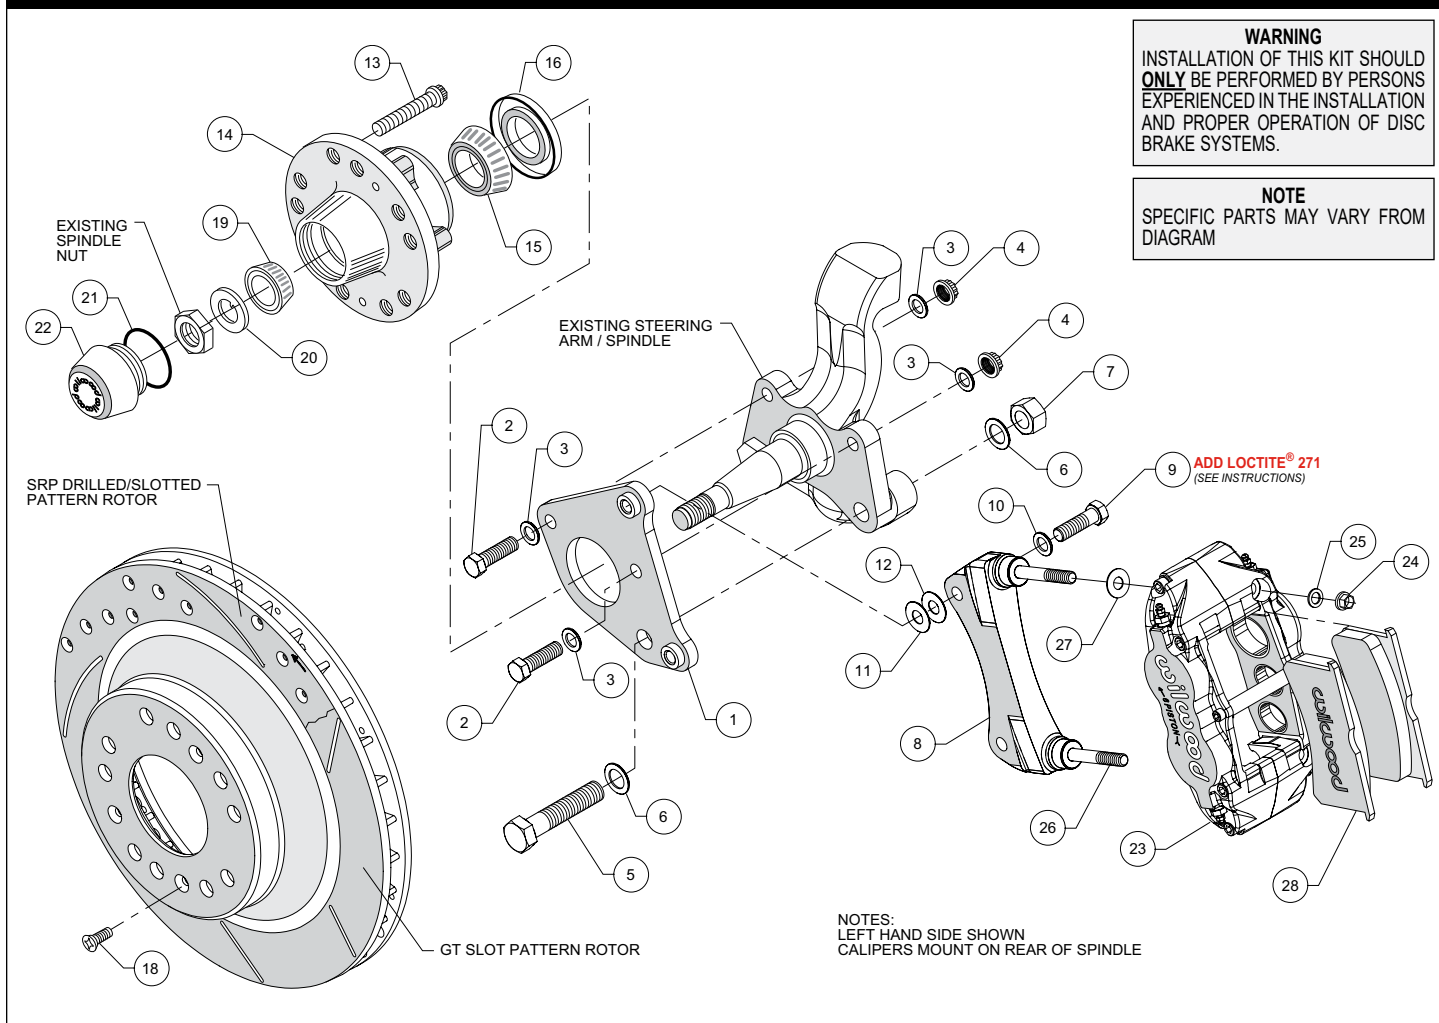

Figure 1. Typical Installation Configuration
- The flat caliper mount bracket (1) should initially be installed with clean, dry threads on the mounting bolts. Orient the bracket as shown in Figure 1, and install using bolts (2/5), washers (3/6) and secure with nuts (4/7). **NOTE:** Be sure the heads of the caliper bracket (1) insert nuts are facing outward toward the wheel. Temporarily tighten the mounting bolts. **NOTE:** The bracket must fit squarely against the spindle face. Inspect for interference from casting irregularities, machining ridges, burrs, etc. After the bracket alignment has been checked, remove the bracket mounting bolts one at a time and apply red *Loctite*® 271 to the threads. Torque lock nuts (4) to 47 ft-lbs., and lock nut (7) to 140 ft-lbs.
- The caliper mount bracket (8) should initially be installed with clean, dry threads on the mounting bolts. Orient the bracket as shown in Figure 1, and install using bolts (9) and washers (10). Initially place one .016" thick shim (11) and one .030" thick shim (12) on each bolt between the flat bracket (1) and radial mount caliper bracket (8), Figure 1. Temporarily tighten the mounting bolts. **NOTE:** The radial bracket must fit squarely against the inboard side of the flat mounting bracket. Later, after the caliper alignment has been checked, the mount bolts will be secured using red *Loctite*® 271.
- Install wheel studs (13) into the hub (14), Photo 1. Torque to 77 ft-lb. **NOTE:** There are two five lug patterns in the hub (5 x 4.50 and 5 x 4.75). Ensure the correct hub stud pattern is being used to fit the wheel application.
- Pack the large inner bearing cone (15) with high temperature disc brake bearing grease (available from your local auto parts store) and install into the backside of the hub (14), Photo 2.
- Install the grease seal (16) by pressing into the backside of the hub (14), flush with the end of the hub, Photo 2.
- Pack the small outer bearing cone (19) with high temperature disc brake bearing grease and install into hub (14). Slide the hub assembly onto the spindle. Secure using spindle washer (20) and OEM spindle nut, Photo 3. Adjust bearings per OEM specifications. Install saved OEM nut lock (if any) and a new cotter pin (not included).
- Screw dust cap (22) into hub (14), Photo 4. Friction created by the o-ring (21) on the dust cap keeps it from unscrewing. **NOTE:** The O.D. of the existing OEM spindle washer may be larger than the I.D. of the dust cap not allowing it to seat against the hub face. Therefore, use the spindle washer (20) supplied with the kit instead of the OEM washer.
- Slide the hat/rotor (17) onto the hub (14) taking care to align the small countersunk holes in the hat with the small threaded holes in the hub. **NOTE:** The hat must fit flush against the hub face or excessive rotor run out may result. Install three flat head screws (18) through the small holes in the hat (14), Photo 4, and torque to 85 in-lb.
- NOTE:** This kit contains distinct right and left hand calipers that must be mounted in a specific direction, as described below. Initially place one .035" thick shim (19) on each stud (26) between the caliper and the bracket, as shown in Figure 1 and Photo 5. Mount the caliper (23) onto the bracket (1) using lock nuts (24) and washers (25), Figure 1. Ensure that the caliper is mounted so the largest pistons are at the rotor exit end of the caliper, in relation to the direction of rotor rotation. Temporarily tighten the lock nuts and view the rotor through the top opening of the caliper. The rotor should be centered in the caliper, Photo 6. If not, adjust by adding or subtracting shims (11 and/or 12) between the flat bracket and the radial mount bracket. Always use the same amount of shims on each of the two mounting bolts. Once the caliper alignment is correct, remove the radial mount bracket bolts one at a time, apply red *Loctite*® 271 to the threads, and torque to 60 ft-lb.
- Remove the caliper center bridge pad retainer bolt, nut, and tube from the caliper. Insert the brake pads (28) into the caliper, with the friction material facing the rotor, as shown in Photo 7. Check that the top of the brake pad is flush with the outside diameter of the rotor, Photo 8. If not, adjust by adding or subtracting shims (27) between the caliper and the bracket. After the caliper pad height is set, torque the caliper lock nuts (24) to 30 ft-lb. Secure the brake pads in place with the center bridge pad retainer tube, bolt, and locknut. The locknut should be snug without play in the bolt or tube. Be cautious not to over tighten.